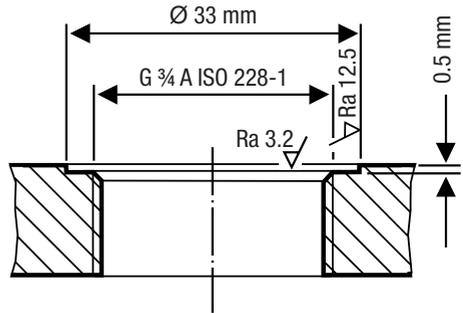

Fig. 7
- Inspect the sealing surfaces of the tank standpipe or flange cover to ensure they are perfectly machined, see Fig. 7.
Sealing surfaces must be perfectly machined, as shown in Fig. 7.